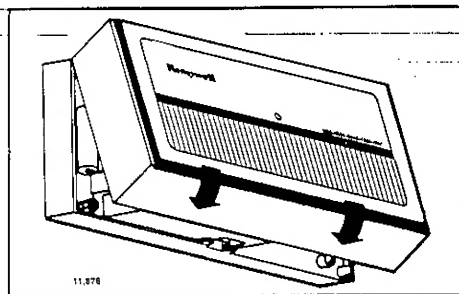

Fig. 9—Attach cover.
- ☐ Place the two tabs on upper edge of cover into mounting slots in thermostat base (Fig. 9).